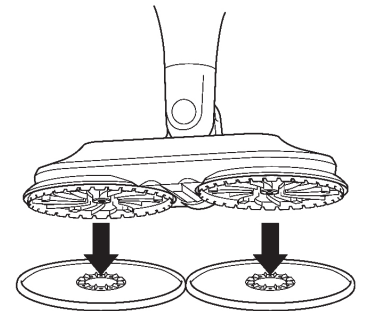

fig. 2
- 2 To attach the Dirt Grip Soft Scrub Pads, place **BOTH** pads flat on the floor with the plastic rings facing up. Align the indent on the rotating discs on the bottom of the mop head with the plastic rings on the pads, then gently lower the mop head onto the pads, pressing until the pads are secured. (fig. 2)